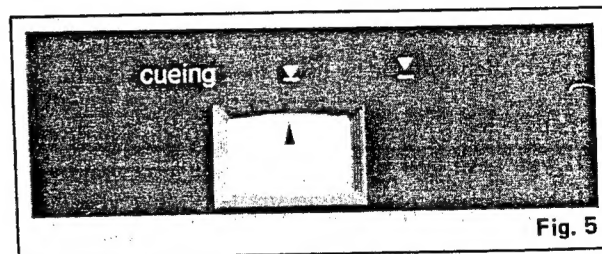

Fig. 5
7. Move the tonearm over the record and set the cueing knob to the "▼" position. (See fig. 5.)